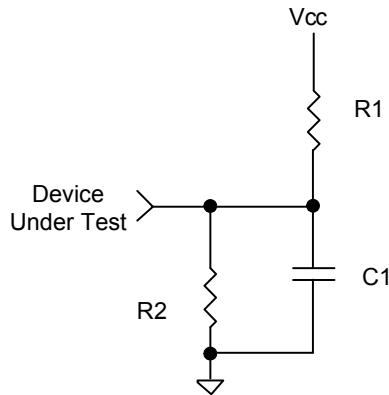

Figure 10: AC Test Load
- With load specified in Figure 10 on page 28, Test Load A.
- With load specified in Figure 10 on page 28, Test Load B.